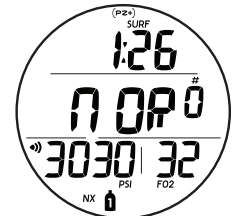

Fig. 32 - NORM SURF MAIN (no dive yet)
**NORM SURF MAIN**, information includes (Fig. 32):